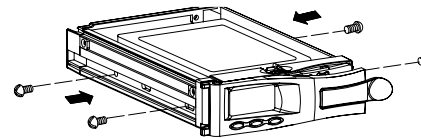

Fig. 5
- Position the HDD into carrier body and secure the HDD using the four 6#-32 screws provided. (Fig.5)